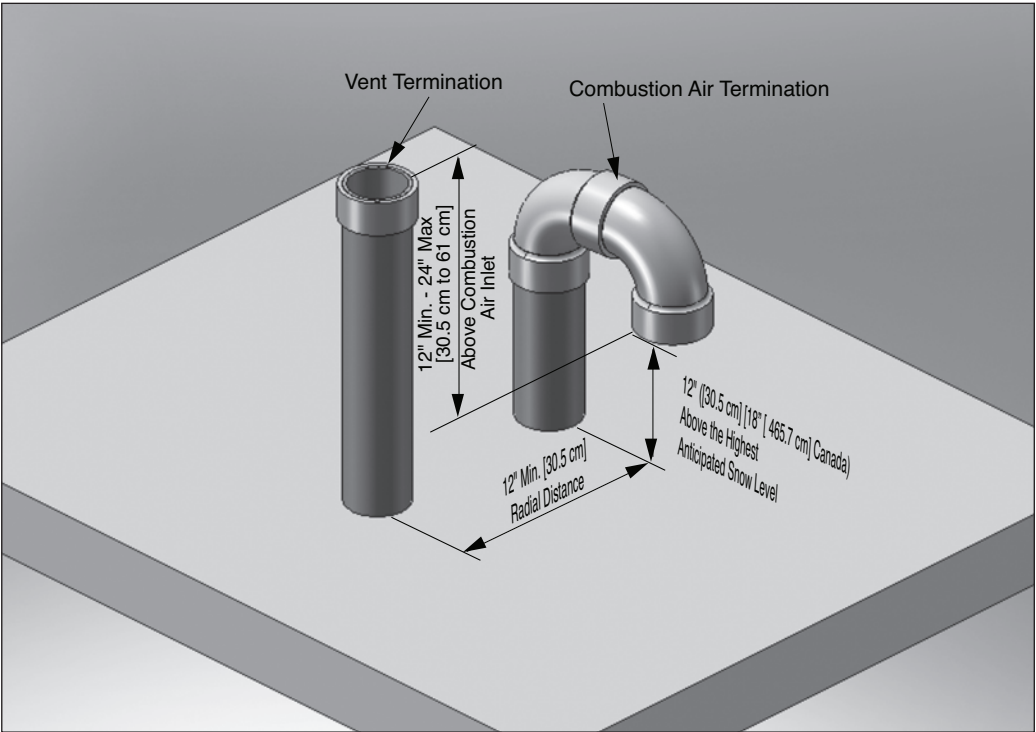
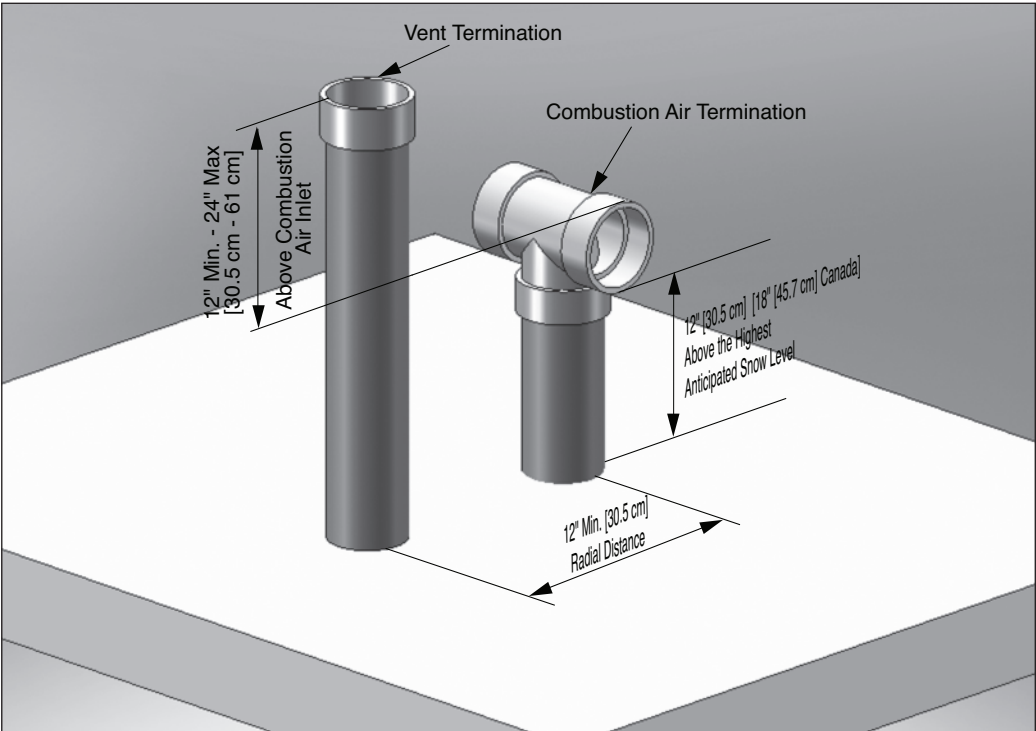

Fig. 1: Direct Vent - Vertical Termination of Vent and Combustion Air Piping.
Fig. 2: Direct Vent - Vertical Termination of Vent and Combustion Air Piping.
2. The combustion air piping must terminate in an upside down “U” shape fashion using two 90° elbows as shown in Fig. 1 page 10 or with a tee as shown in Fig. 2 page 10. The termination must be installed 12” [30.5 cm] (18” [45.7 cm] Canada) above the highest anticipated snow level.
3. The vent must terminate vertically with a coupling to accept the bird screen and must be located 12” to 24” [30.5 cm to 61 cm] above the combustion air inlet as shown in Fig. 1 & Fig. 2 on page 10.
4. The vent and combustion air terminations must be located a radial distance of 12” to 24” [30.5 cm to 61 cm] from centerline of vent termination to centerline of air termination as shown in Figs. 1 & 2 on page 10.
3. Locate the vent and combustion air pipe penetrations to provide clearances as described in Fig. 1 & Fig. 2 on page 10.
2. The combustion air piping must terminate in an upside down "U" shape fashion using two 90° elbows as shown in Fig. 1 page 10 or with a tee as shown in Fig. 2 on page 10.
3. The vent piping must terminate vertically with a coupling as shown in Figs. 1 & 2 page 10.
Do not extend the vent pipe above the roof beyond the dimensions shown in Fig. 1 & Fig. 2 on page 10. Extended exposure of the vent pipe could cause condensate to freeze and block the vent pipe.